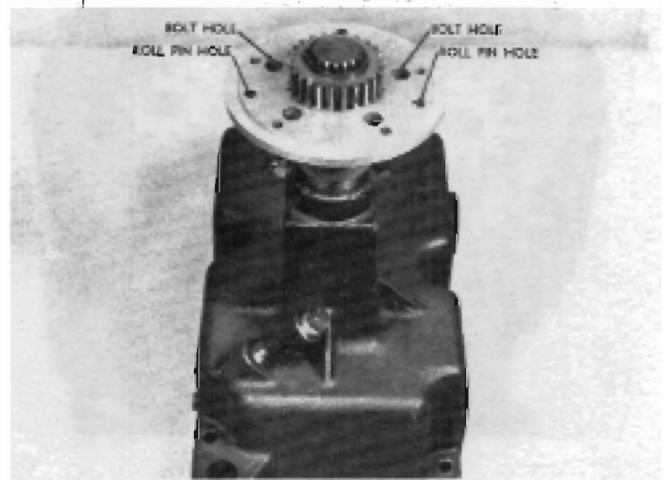

FIGURE 6
The matching roll pin holes in the left hand end cap are also located **next to the bolt holes**, but in the right hand end cap they are **between bolt holes** as shown in Figure 6.
3. Using the left hand case as a workstand, place the right hand (long) axle and right hand end cap (long) assembly in the axle housing. Figure 6.